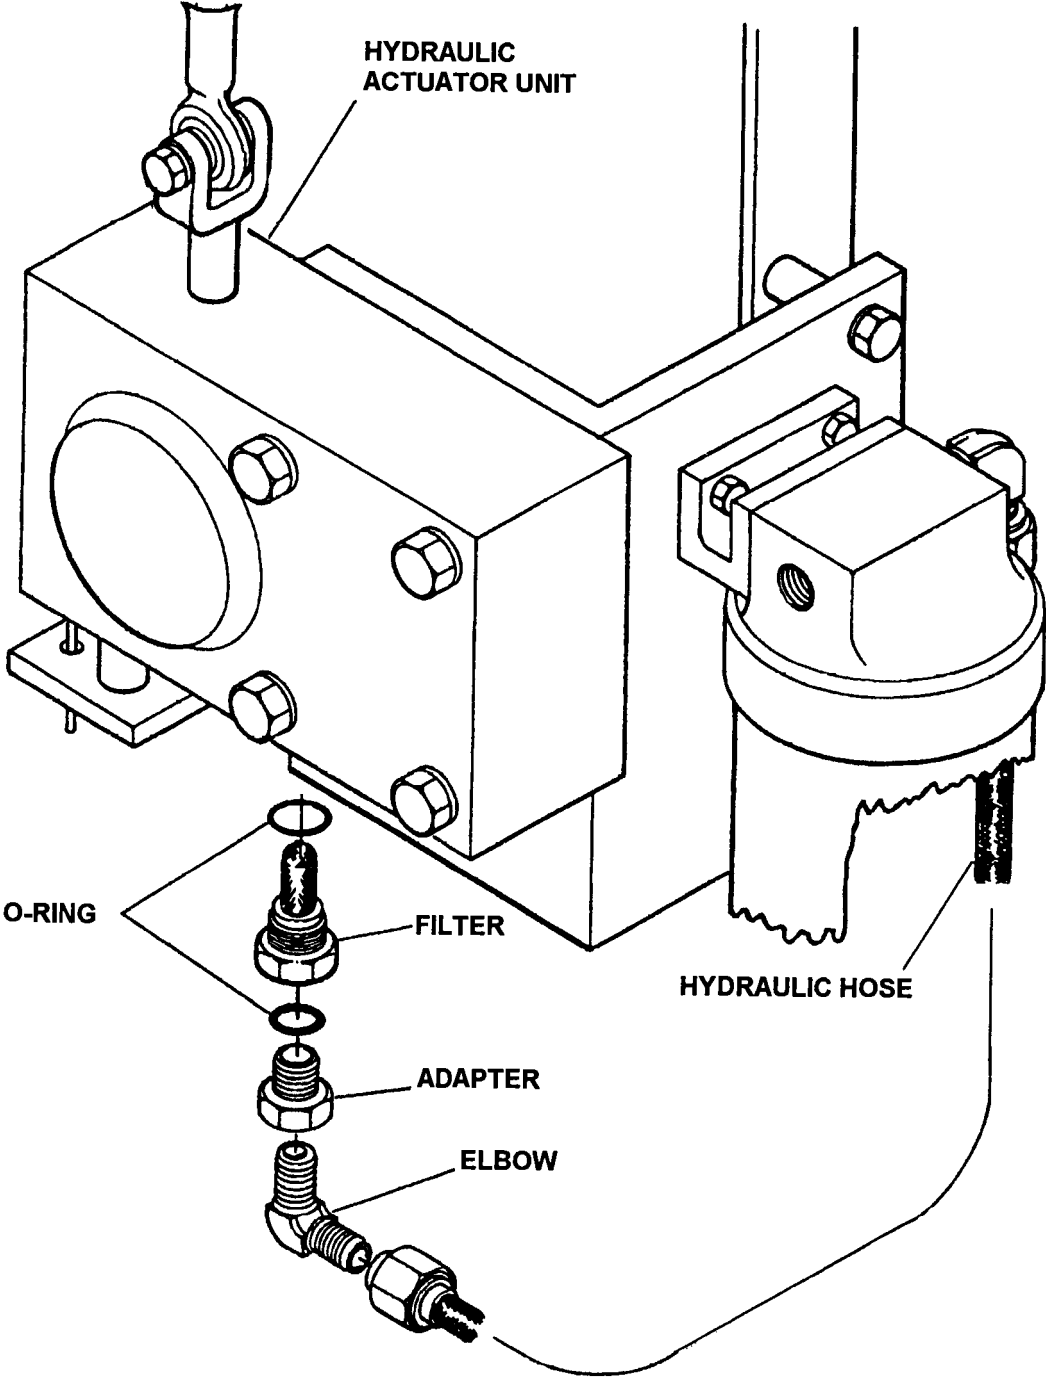

Figure 4-29. Servicing the Hydraulic Actuator Unit Filter
- a. Disconnect hydraulic hose assembly (Figure 4-29).